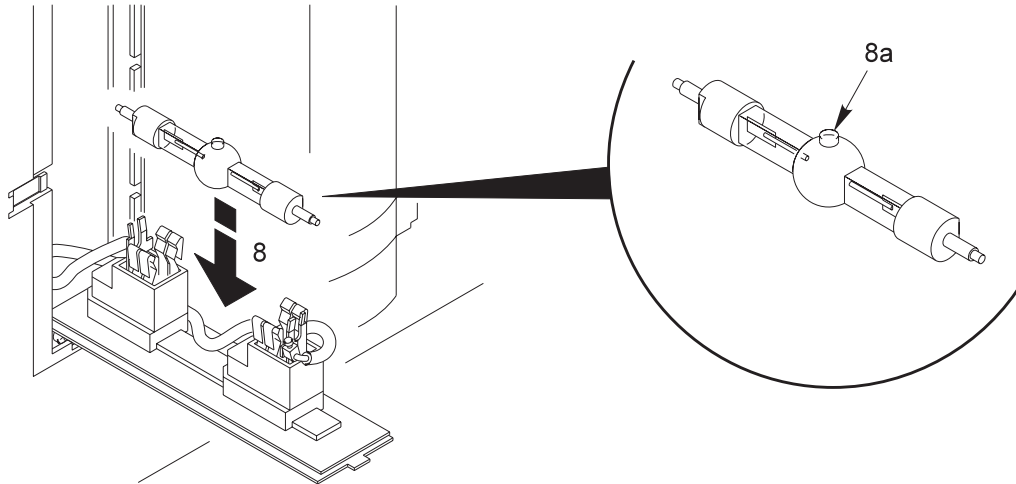

Figure 6-3. Replacing the Lamp
11. Install the new lamp (3M Lamp Kit Part Number 78-6969-8577-5) by pushing down on the ends of the lamp (8) with equal pressure. Take care to correctly align the lamp with the bubble (8a) facing upward (see figure 6-3).